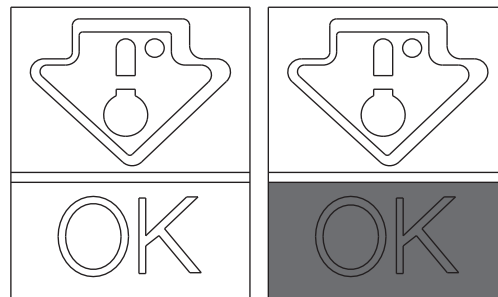

Fig. 6
- To maintain the best flavour, nourishment and freshness of foods, it is advisable to store them in the refrigerator compartment as shown in Fig. 6 below, making sure to wrap them in aluminium or plastic sheets or in appropriate covered containers to avoid cross-contamination.
Check that on the indicator of the temperature, the word OK is clearly shown (Fig. 6). If the word does not appear, this means that the temperature is too high: adjust the temperature to a cooler setting and wait for about 10 hours.